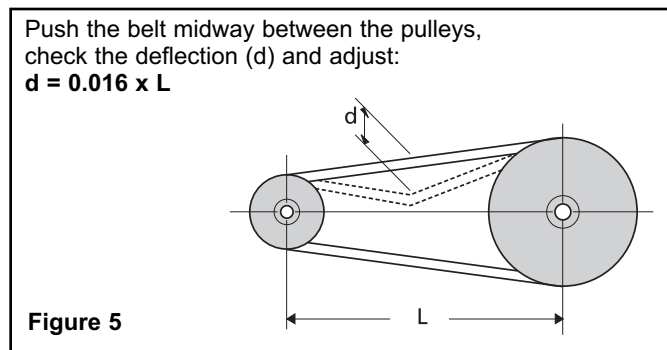

Figure 5
2. Make sure belts have proper tension - belts too tight will cause bearing wear and belts too loose will cause slipping (See Figure 5).